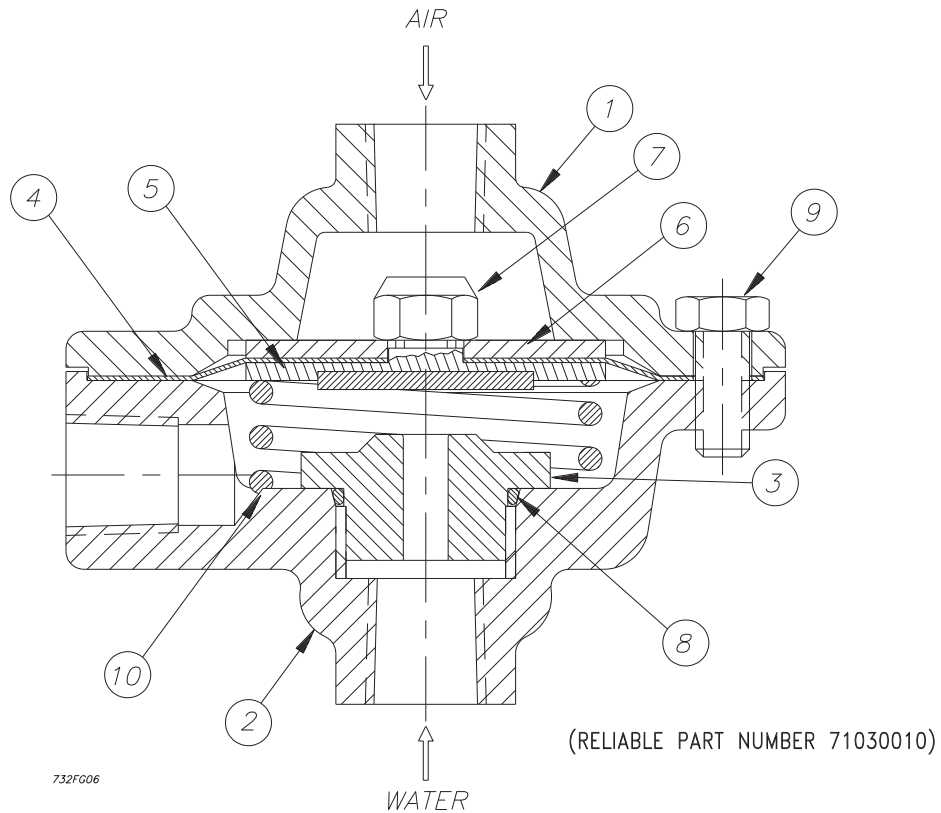

Fig. 6
Refer to Fig. 6
3. Remove all six bolts (#9, Fig. 6) holding the Actuator together. Clean or replace the facing plate assembly (#5, Fig. 6) and seat (#3, Fig. 6).
4. Reassemble the Actuator, using a torque of 8 ft-lbs on the facing plate nut (#7, Fig. 6) and 12 ft-lbs on the six bolts (#9, Fig. 6). Use a cross-tightening pattern. Reinstall the Actuator. Set up the Model DDX Deluge Valve as per the section "Resetting the Single Interlock Preaction System."